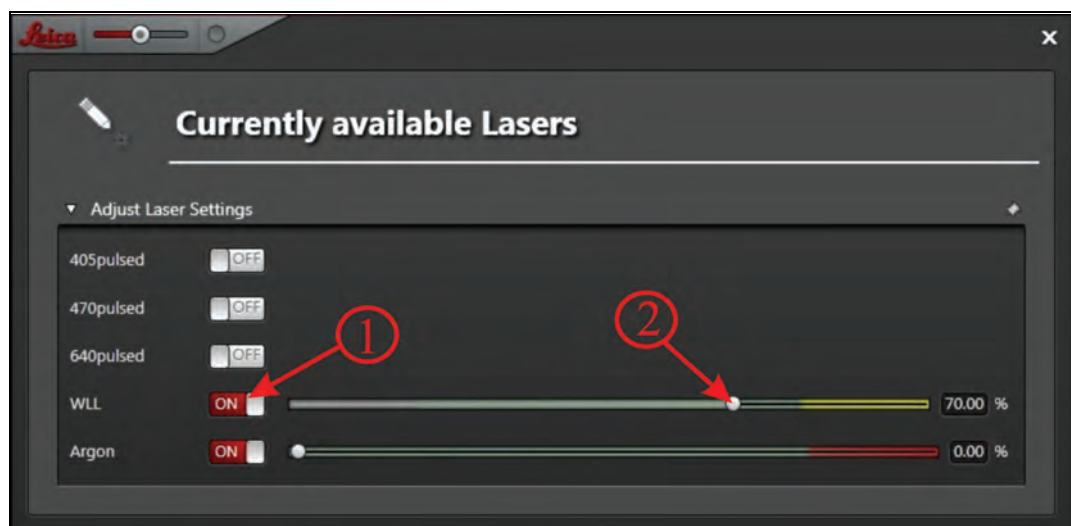

Figure 109: Settings in the Settings menu
7. In the **Currently available Lasers** dialog, you can set the laser power (**Figure 109**). To do this, enable the laser (**Figure 109, item 1**). Set the desired laser power using the slider (**Figure 109, item 2**).